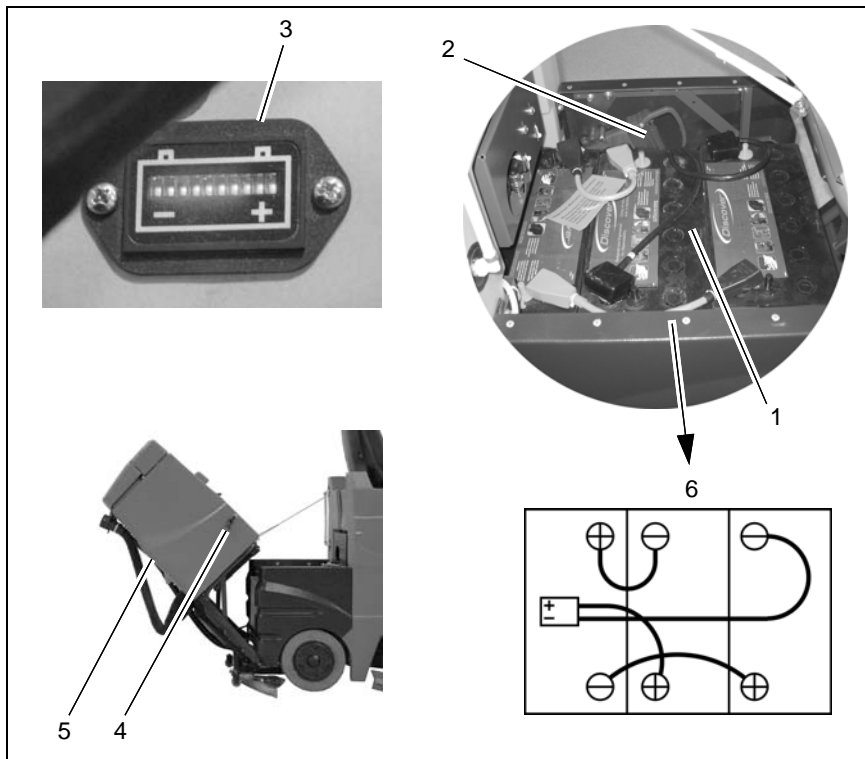

Fig.10
The batteries (Fig. 10/1) are charged using an appropriate battery charging device. The charger is connected via the battery plug (Fig. 10/2). We recommend charging the battery when at least one LED on the total discharge signal transducer display (Fig. 10/3) has gone out after operating the vehicle. Pay attention to the information in the operating manuals supplied with the 88-60-2723 charger and the battery manufacturer.
The machine is equipped with a charge indicator to preclude the batteries from low discharge. This low discharge signal indicator (Fig. 10/3) is integrated in the electronics. If other batteries are used, re-adjustment of the low discharge signal indicator is required.
3. Release the side locks (Fig. 10/4) and open the empty recovery tank (Fig. 10/5).
4. Disconnect the battery plug (Fig. 10/2).
2. Release the side locks (Fig. 10/4) and open the empty recovery tank (Fig. 10/5).
4. Connect the battery poles to the connection cables in the accessories kit according to the wiring diagram (Fig. 10/5). Pay attention they are firmly fixed and grease the poles.